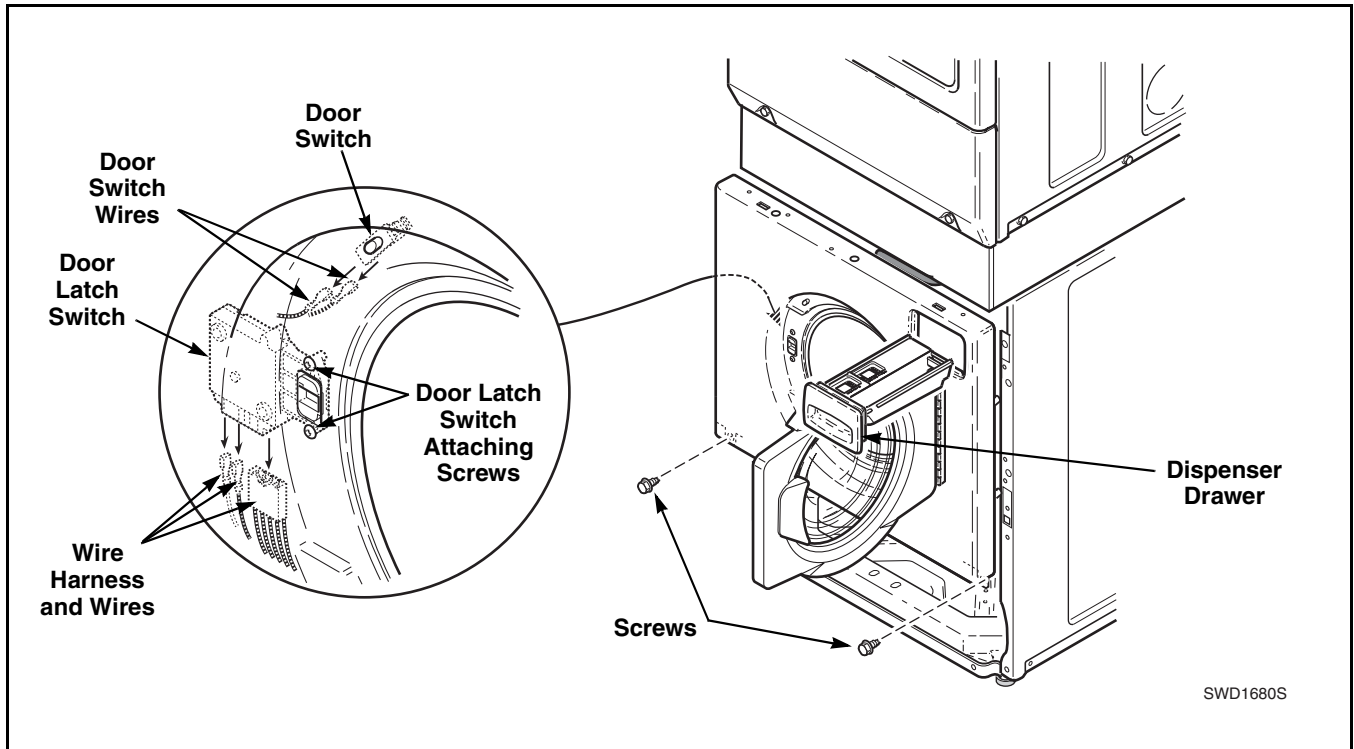

Figure 15
- j. Working through control panel opening, remove two screws holding bottom flange of control cabinet sides to top flange of front panel. Refer to *Figure 15*.
- k. Remove bottom two front corner screws. Refer to *Figure 15*.
- m. Unplug wire harness from both the door latch switch and from the door switch. Refer to *Figure 15*. Remove clips holding wire harness and door seal hose along top flange of front panel and remove front panel.
- h. Reach in through control panel opening and remove two screws holding bottom front flange of control cabinet sides to top flange of washer front panel. Refer to *Figure 15*.
- k. While supporting the front panel assembly, remove the two bottom front corner screws. Refer to *Figure 15*. Remove front panel (with loading door attached) away from washer as far as wire permit.
- f. Reach up between door seal and front panel. Refer to *Figure 15*. Press in on switch locking tabs and push switch out through front panel only far enough to allow removal of wires from switch terminals.
- f. While supporting door lock from behind (through door opening), remove two Phillips head screws holding door latch switch to front panel. Refer to *Figure 15*.
- g. Gently pull door lock out through door opening. Remove door lock only far enough to disconnect harness connector from door lock. Refer to *Figure 15*.